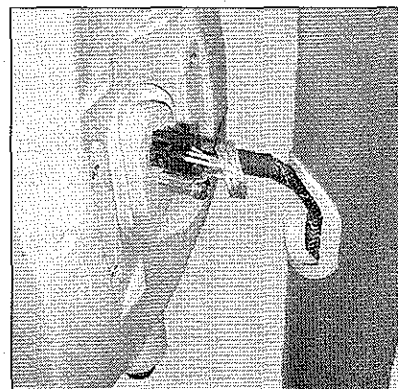

Figure 5-28b: EDA Connector
4. Remove the Phillips screw and lock washer from the ground post in back of the EDA module and remove the EDA's ground lug (see Figure 5-28b). Remove the EDA module.
3. Remove the Phillips screw and lock washer from the ground post in back of the EDA module (see Figure 5-28b).